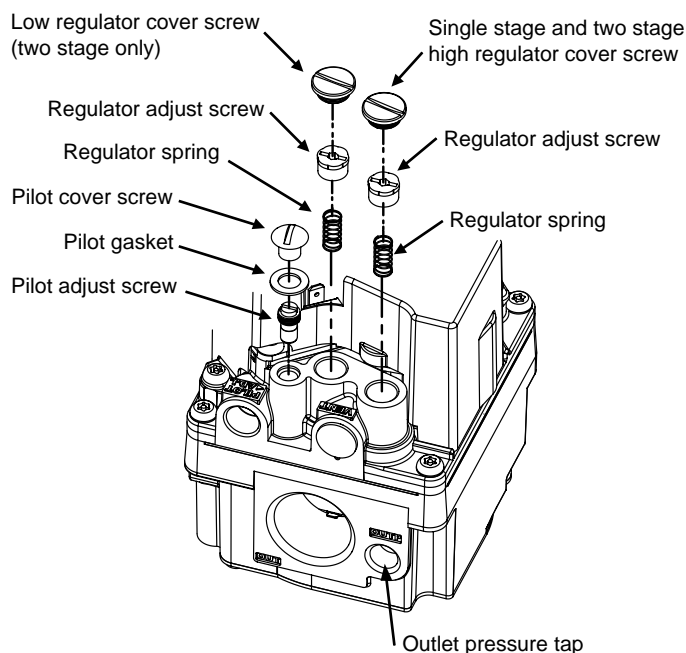

Figure 5. Pressure Adjustment
2. Remove plug and install hose barb fitting and manometer to pressure tap on outlet end of valve. See fig. 5.
4. (2-stage only) Remove regulator cover screw from the low outlet pressure regulator adjust tower (fig. 5) and turn screw clockwise (↻) to increase pressure, or counterclockwise (↺) to decrease pressure. Always adjust regulator according to original equipment manufacturer's specifications listed on the appliance rating plate. Replace regulator cover screw.
6. Remove regulator cover screw from the single stage or high outlet pressure regulator adjust tower (fig. 5) and turn screw clockwise (↻) to increase pressure, or counterclockwise (↺) to decrease pressure. Always adjust regulator according to original equipment manufacturer's specifications listed on the appliance rating plate. Replace regulator cover screw.
To adjust the pilot gas pressure, remove the cover screw (See fig. 5). **To REDUCE pilot pressure**, turn the pilot adjust screw (beneath the cover screw) clockwise (↻). **To INCREASE pilot pressure**, turn the pilot adjust screw counterclockwise (↺). Replace and tighten cover screw.